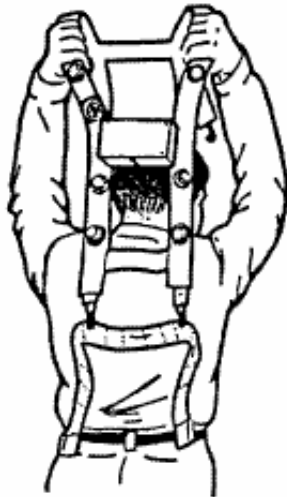

FIGURE 3-6. Torso Harness Placement
3. With the web belt positioned at your lower back (and not buckled to itself), raise the harness and lower it over your head (refer to Figure 3-6). Let the harness hang loose on your chest.